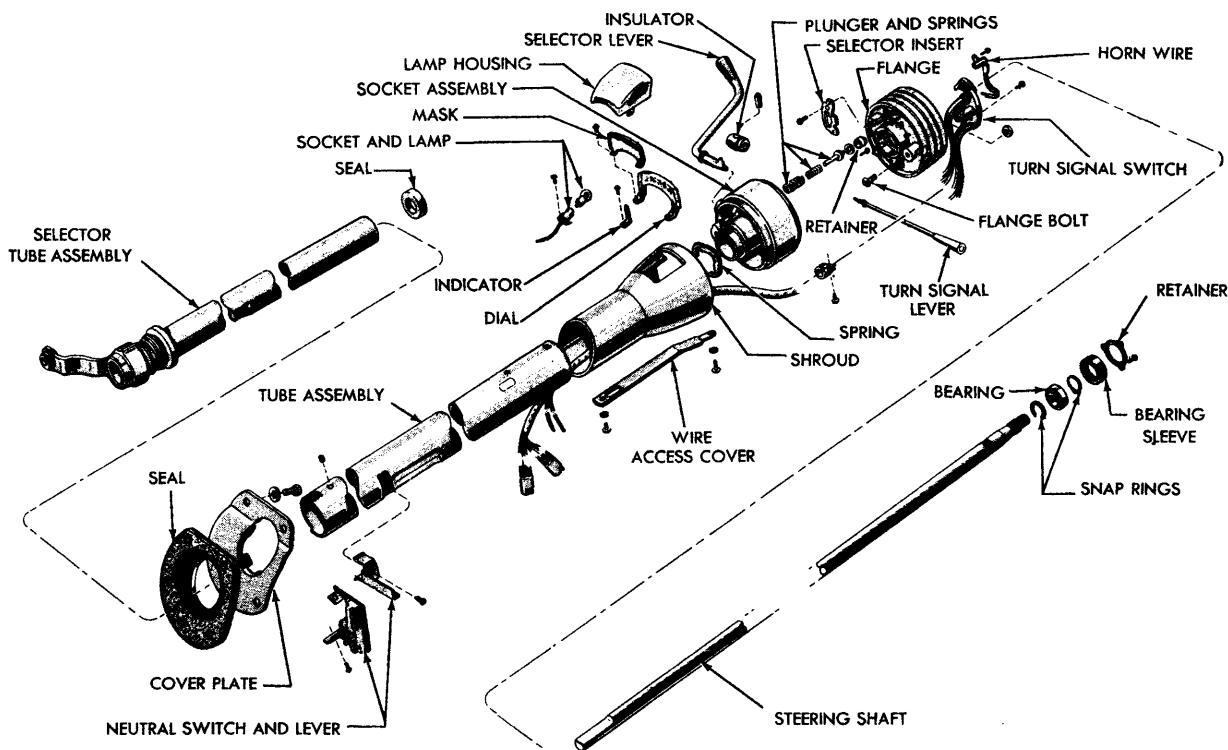

FIG. 7—Steering Column and Selector Lever Tube Details
5. Remove the horn wire and turn signal switch attaching screws (Fig. 7). Lift the switch and horn wire from the flange and place them to one side.
2. Install the rubber insulator on the bearing (Fig. 7).
4. Disconnect the wires at the steering column. Remove the screws that hold the wire access cover to the underside of the column. Slide the cover toward the steering wheel to remove it (Fig. 7).